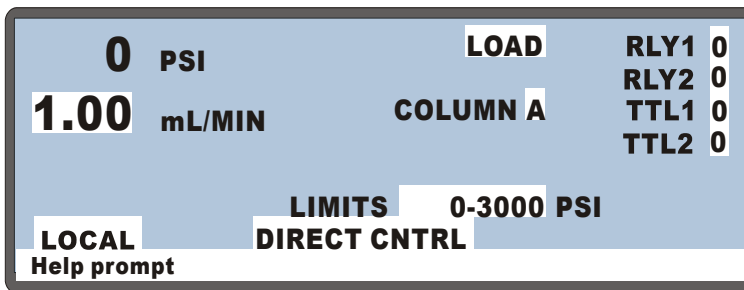

Figure 3-3. Main Screen: Direct Control Mode
1. Go to the **MAIN** screen (see Figure 3-3).